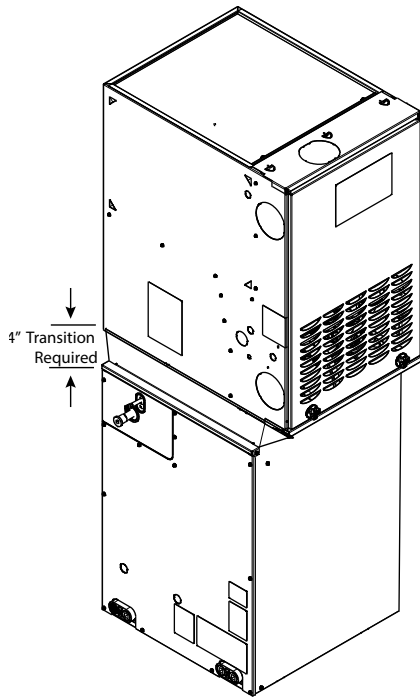

**Fig. 3 – Adapter(s) Installation When Coil is Larger than Furnace** A200228C
3. When installing wider coil on narrower furnace, it is recommended to use a transition adapter (Fig. 3).